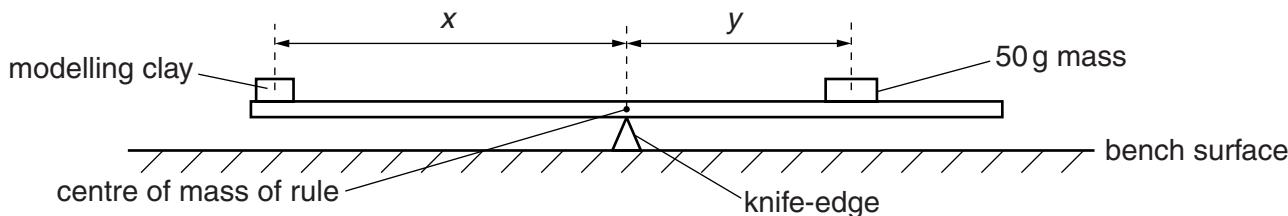

Fig. 1.1
- (b)** Place the modelling clay at one end of the metre rule and adjust the position of the 50 g mass at the other end until the rule balances. The knife-edge must remain below the centre of mass of the rule. The arrangement is shown in Fig. 1.1.